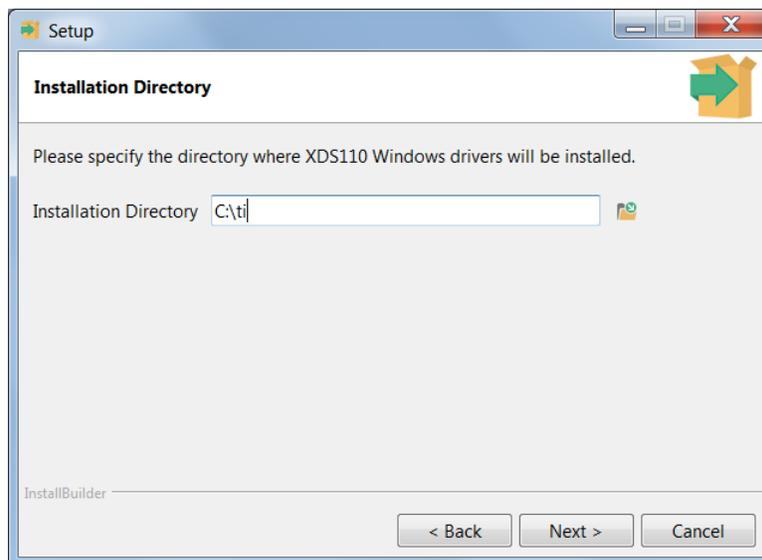

Figure 7. XDS110 Driver Installation Directory
3. Specify the installation path (default is c:\ti), and proceed with the installation (see Figure 7).